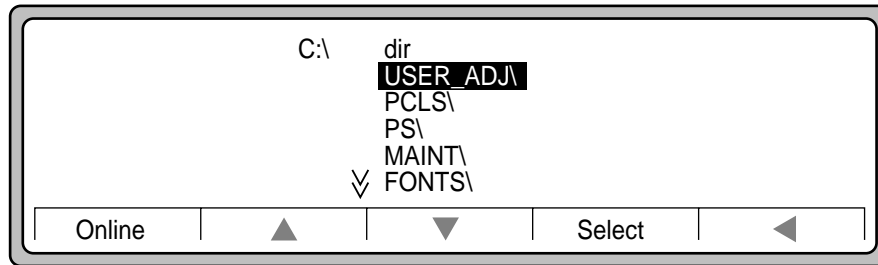

Figure 6-5 FilesC submenu
- From the filesC submenu shown in Figure 6-5, use ▼ to highlight USER_ADJ, then press Select.